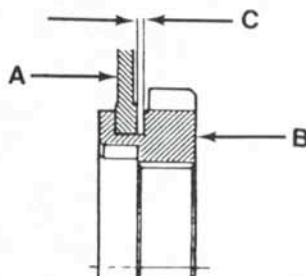

Fig. 199 — Clearance (C) between groove in transmission sliding gears (B) and shift fork (A) should not exceed 1.0 mm (0.039 inch).
Inspect all parts for excessive wear or damage and renew if necessary. Backlash between gears should be 0.20 mm (0.008 inch) with a wear limit of 0.60 mm (0.024 inch). Clearance (C—Fig. 199) groove of sliding gears (B) and pad of shift forks (A) should be 0.10-0.30 mm (0.004-0.012 inch) with a wear limit of 1.0 mm (0.039 inch). Diametral clearance between shift rails and housing bores should be 0.03-0.10 mm (0.001-0.004 inch) with a wear limit of 0.30 mm (0.012 inch).